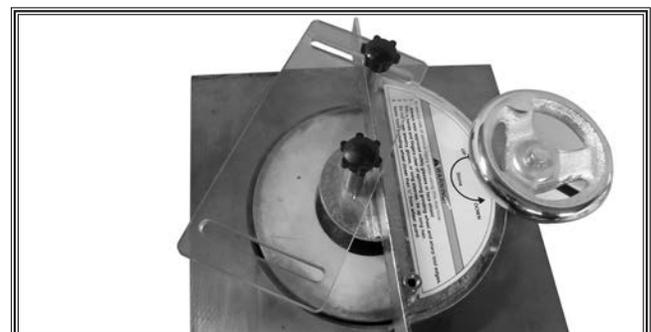

Figure 5. Adjustable guard alternate setup (knife clamp removed for illustration purposes).
7. If necessary, adjustable guard may also be set at angle to wheel guard (see **Figure 5**).